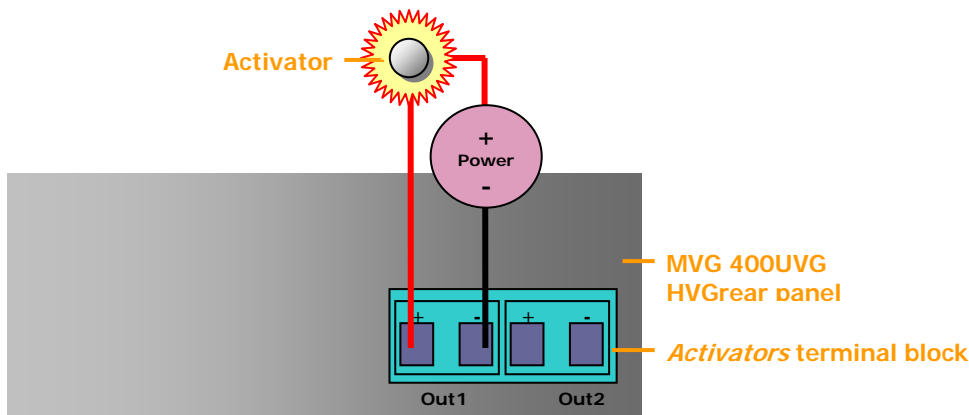

Figure 11: Connecting an activator that has its own power supply
2. Connect the two contacts of the activator to the Activators terminal block on the rear panel of the UVG400, as illustrated in figure 11.